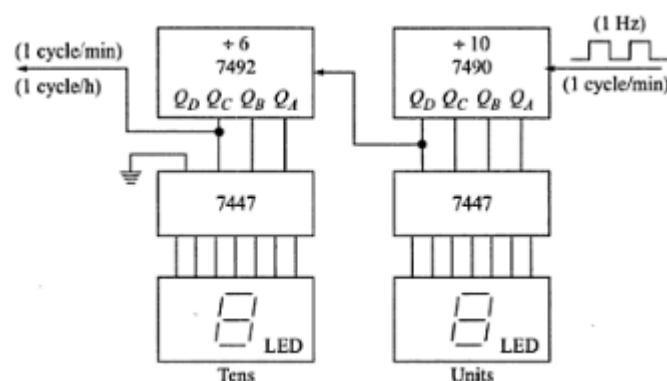

Figure 10.42: A 10\*6 mod-60 counter with units and tens decoding
- In figure:10.42, the 7492 is connected as a divide-by-12 counter, but only outputs QA,QB & QC are used. In this fashion, the 7492 operates essentially as a divide-by-6 counter.
- Since both the 7490 & 7492 count in the straight 8421,a 7447 decoder-driver can be used with each to drive two 7-segment indicators(Figure: 10.42)